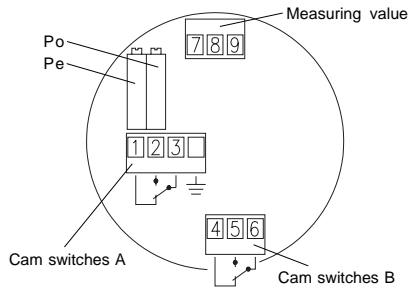
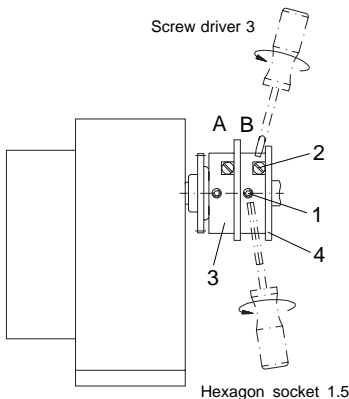

Fig. 6 : Electrical connection
Fig. 9 : Trip cam adjustment
Connect cam switches accord. to fig. 6. Switch A is closer to the device than switch B (Fig. 9).
- Connect strands to the clamps (fig. 6).
- Bring the turnable trip cams (A, B) into a position which is favorable for fine adjustment: grub screw (1) and screw (2) must be easily accessible.
- Fix the grub screws (1) to prevent straining of the trip cams.
- The setting screw (2) is used for precise setting of the trip cam; use a screw driver size 3 (see fig. 9).
The instrument transformer is preset to standard values 4mA for potentiometer's start position (Po) and 20mA for end position (Pe). **Via two trimmpotentiometer's Po and Pe (see fig. 6) these values can be adjusted to the application's actual start and end position:**